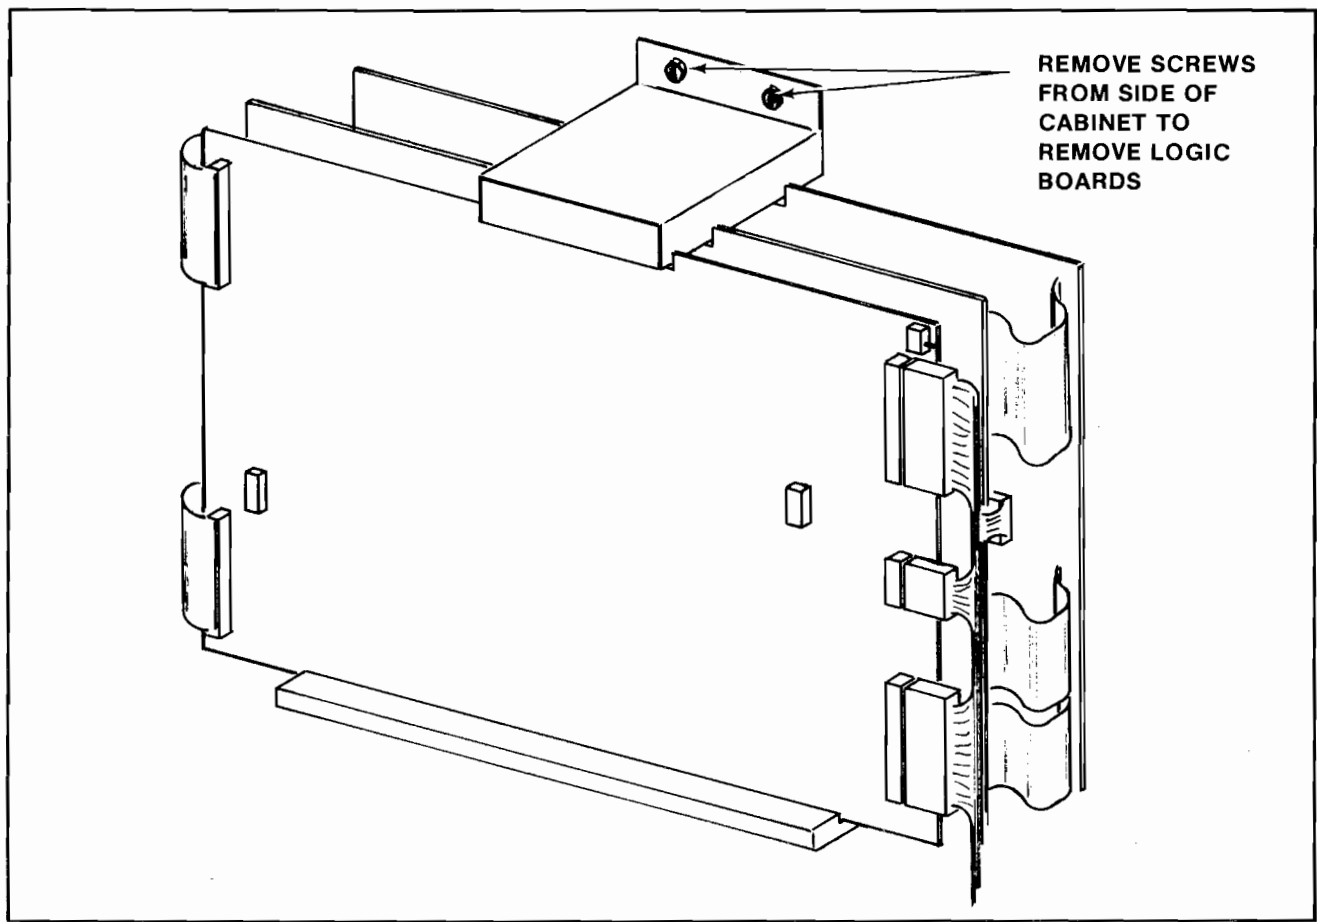

Figure 4-13 Removing P.C.B.s from Card Rack
- To remove the P.C. boards from the card rack. See Figure 4-13.